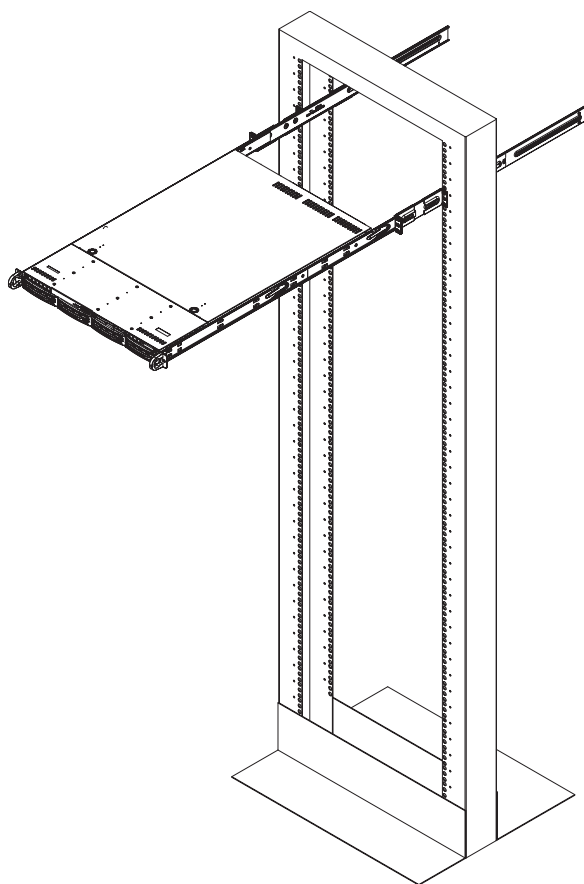

Figure 2-3. Installing the Server into a Telco Rack
3. Finish by sliding the chassis into the rack and tightening the brackets to the rack. See Figure 2-3.